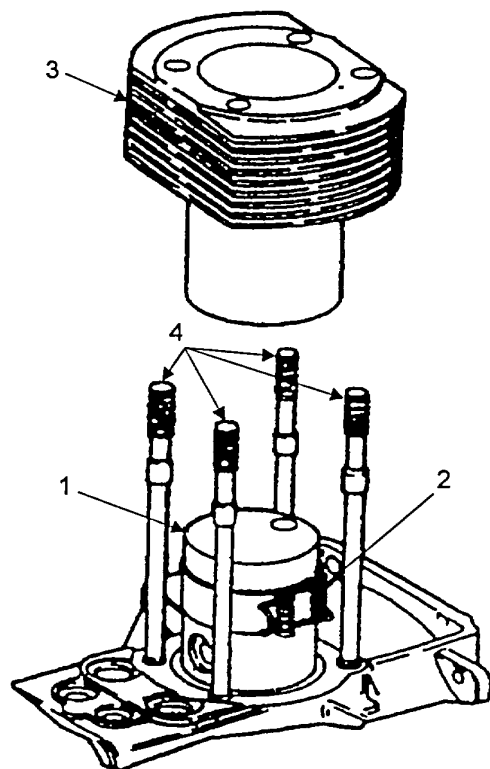

FIGURE 5-38. MOUNTING CYLINDER
- g. Compress piston rings with piston ring clamp (Figure 5-38, Item 2).
- h. Apply lubricating oil to inside of cylinder and slowly mount cylinder on studs (4). Remove piston ring clamp (2).